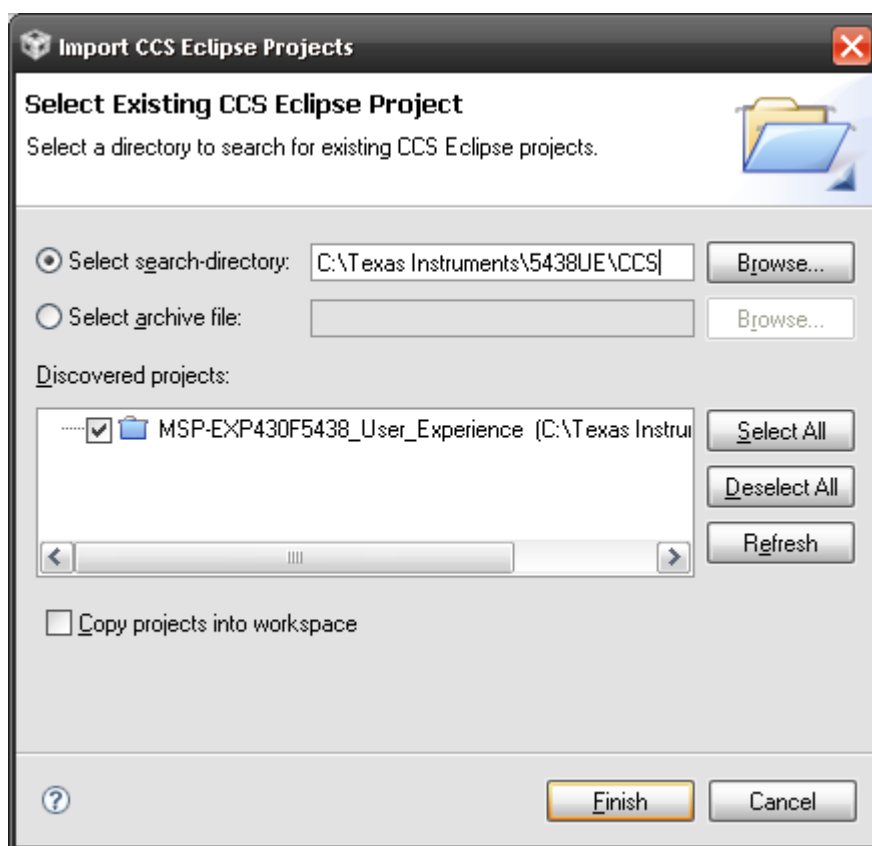

Figure 3-2. Opening Existing Project
7. Browse to the extracted project directory. The project should now show in the Projects list (see Figure 3-2).